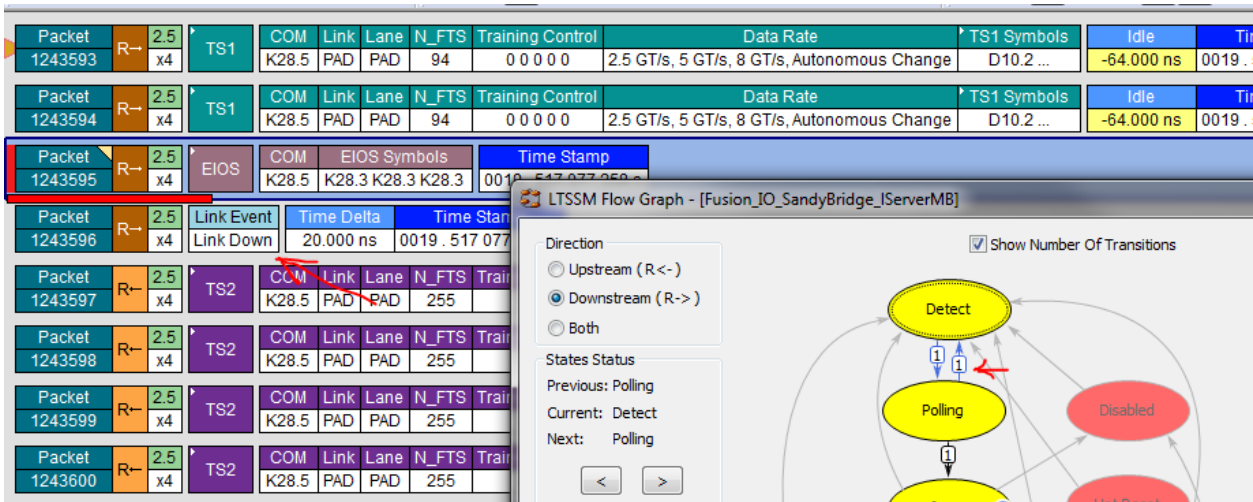

Figure 63 - RP Polling.Active timeout to Detect
- RP fails to achieve bit/symbol lock and times out to Detect after 24 ms, as shown in Figure 63.